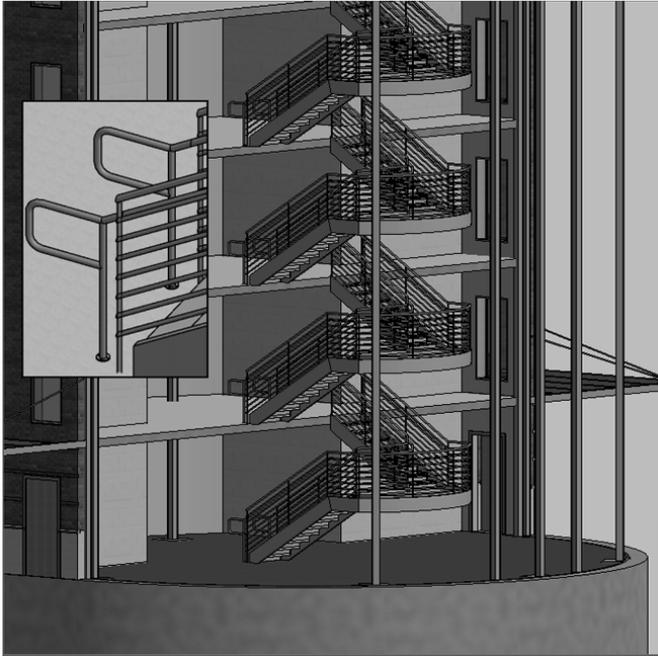

FIGURE 10.22: The copied families
7. Align the magenta line with the ADA – Pipe family, as shown in Figure 10.22.
11. Pick Levels 2, 3, and 4, and then click OK. Does your staircase look like Figure 10.22?